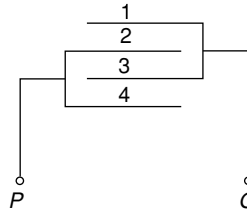

Fig. 1.55
26. If the capacitance between two successive plates is $0.5C$ (Fig. 1.55), find the capacitance of the equivalent system between points P and Q .